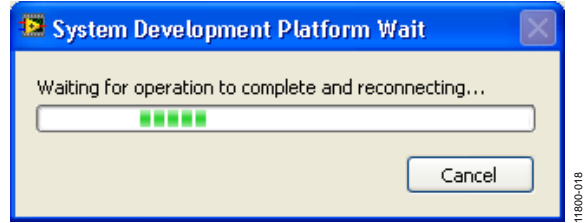

Figure 18. Software Connects to SDP Board
3. After finding the evaluation board, the software connects to the board and displays the dialog box shown in Figure 18.